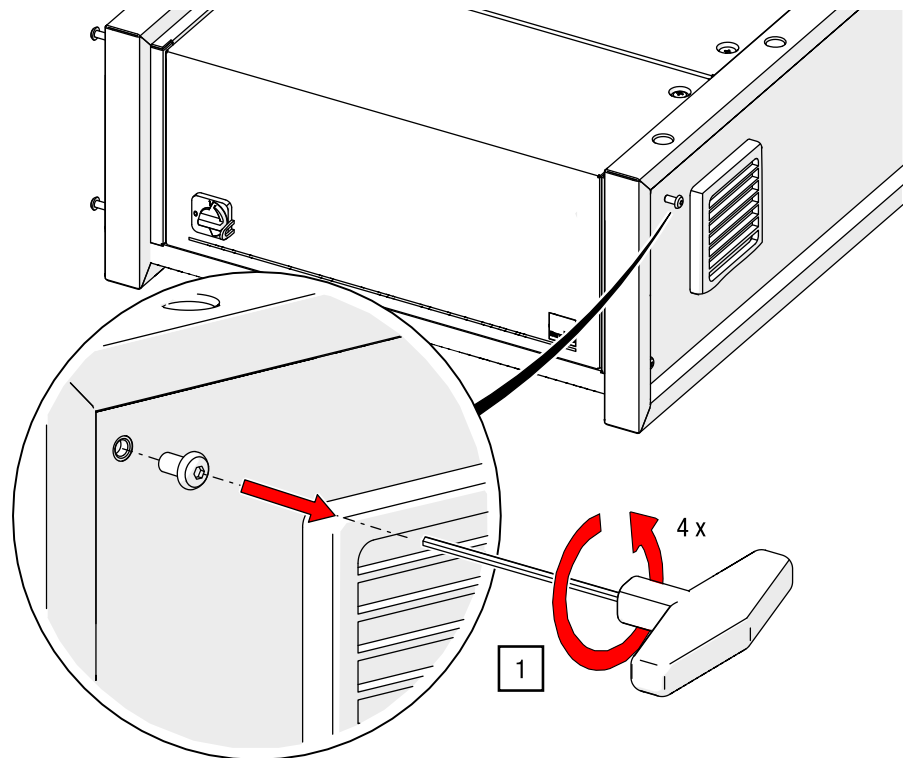

Fig. 20: G-FRAME control unit Screws for. Loosen mounting bracket screws (control unit model may differ)
G-FRAME control unit	The control panel is mounted on the front of the horizontal control unit (see Fig. 20).
1. Loosen the 4 pre-assembled hexagon socket screws on both sides in the front area of the housing using an Allen key AF 4 (see Fig. 20).